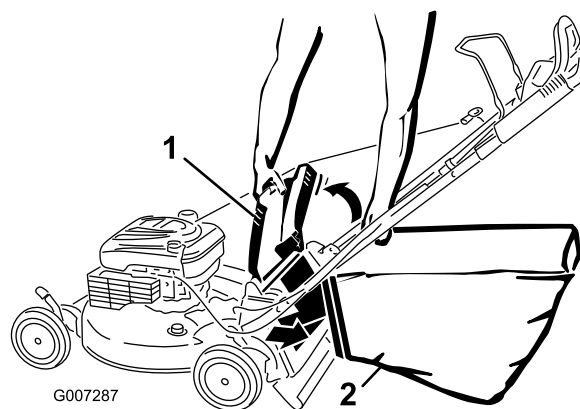

Figure 28
4. Hang the upper front edge of the bag on the notches (Figure 28).